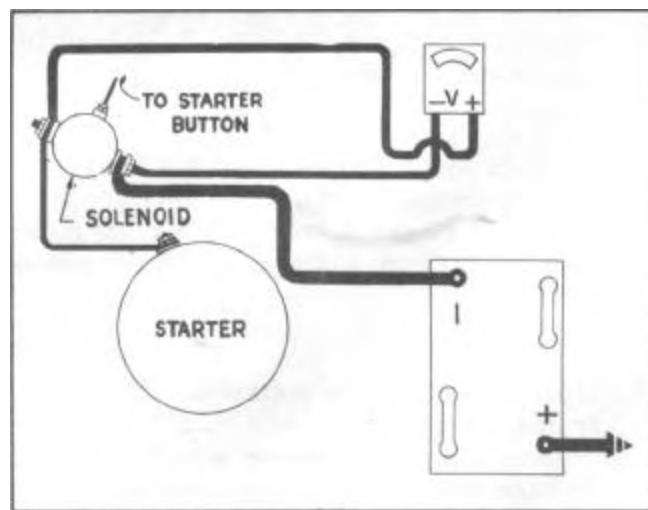

FIGURE 5
1. Connect negative lead to "BAT" terminal of starter solenoid switch and positive lead to the starting motor terminal of starter solenoid switch, Figure 5.